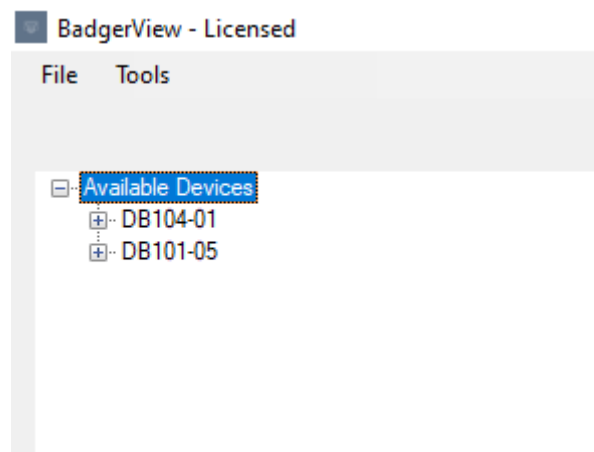
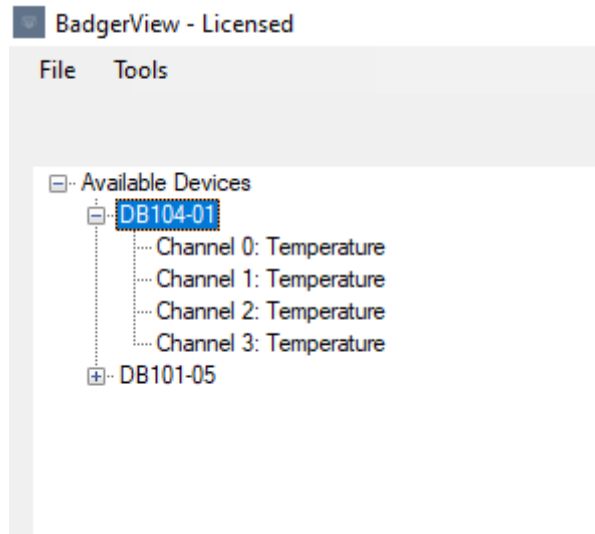

Figure 7: Device tree view with two devices
Figure 8: DB104-01 expanded to show available data channels
Figure 7 shows the device tree view with two devices located. In this instance, a DB101-05 Ethernet thermocouple logger and DB104-01 Wifi thermocouple logger have been identified. Both devices are displayed in summary mode, with the available data channels hidden. Clicking the + symbol to the left of the device expands the listing to show data channels available, as shown in Figure 8.
1. Select the + symbol next to the desired device to display available channels for measurement, as shown in Figure 8